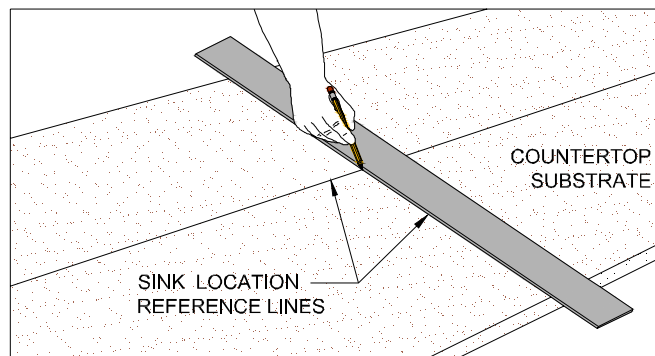

Figure 9A
- Locate where sink is to be installed on the substrate and draw reference lines/centerlines. (FIG. 9A)